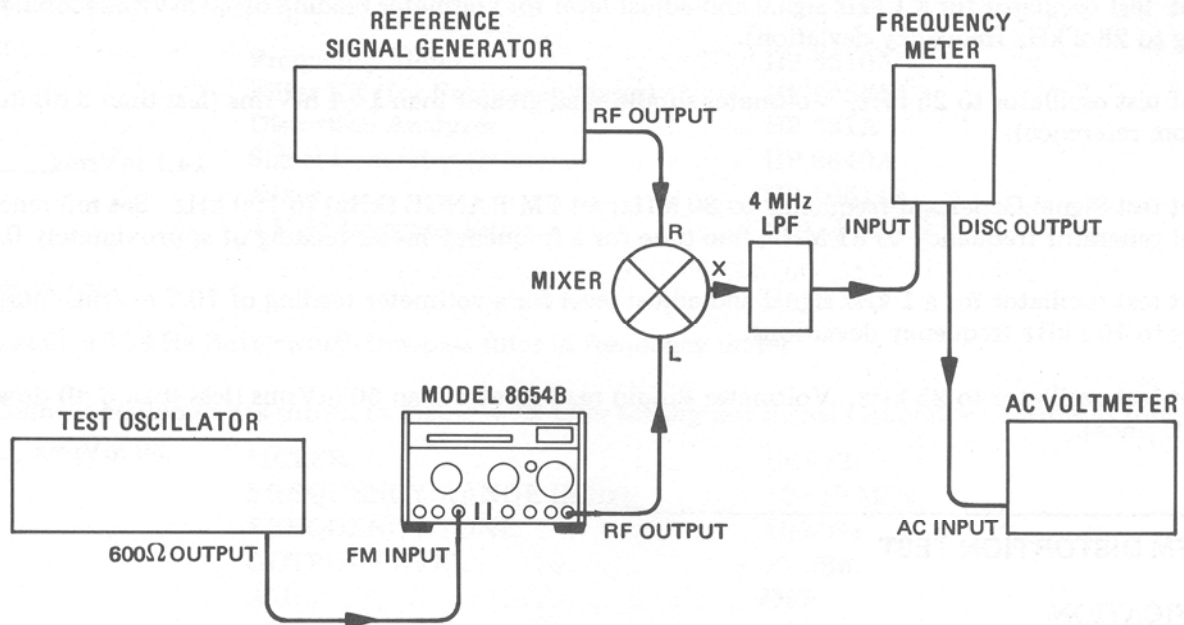

Figure 4-11. FM Bandwidth Test Setup
2. Connect equipment as shown in Figure 4-11 after setting test Signal Generator controls as follows: